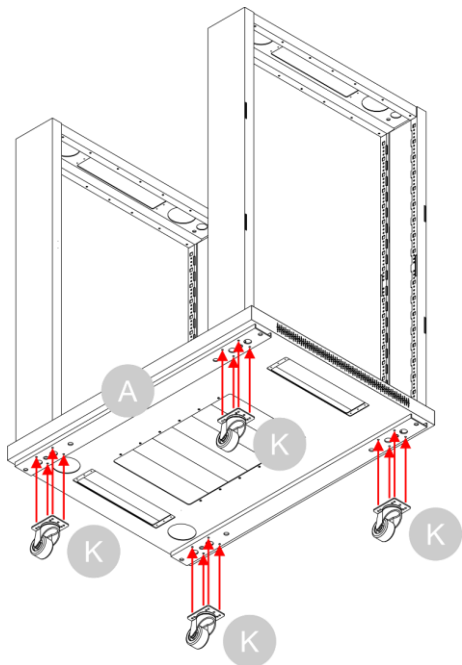

Fig. 21
- 05) Use a **hex key (S)** to attach the 4 **wheels (K)** to the bottom of the **bottom plate (A)** with 4 x 4 **screws (O)**, as shown in Fig. 21.